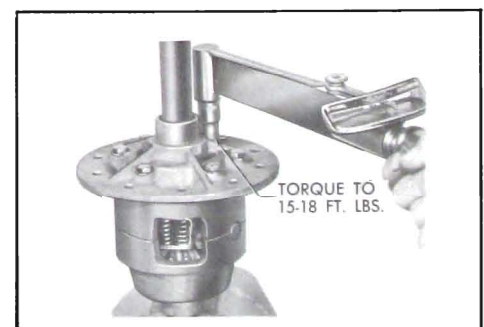

Figure 6-43—Torquing Differential Bolts
9. Install other axle shaft through flange half of differential case rotating axle to enter cone splines and then side gear splines. Leaving the axle shaft in this position, insert remaining bolts and tighten to 15-18 ft. lb. See Figure 6-43.